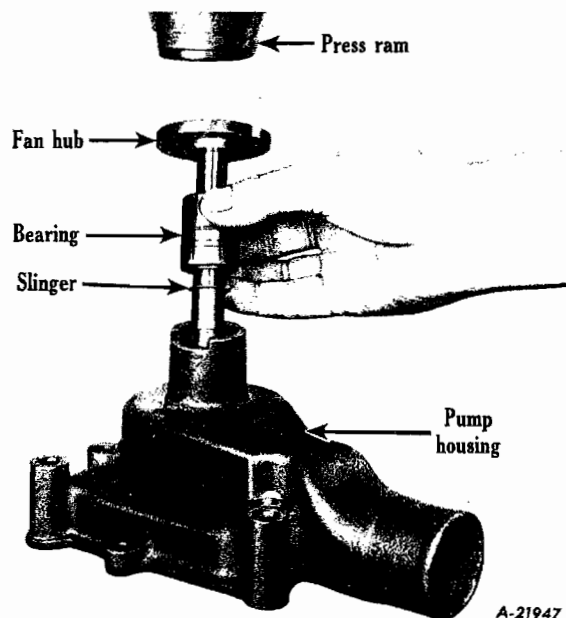

Fig. 38
2. Install shaft in housing from front end by pressing shaft, bearing, slinger, and fan hub in as one unit (Fig. 38).